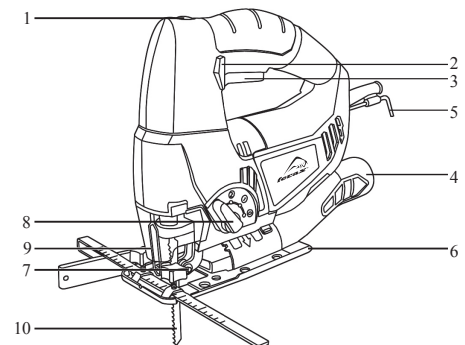

Fig. 1
4. PRODUCT INFORMATION (Fig. 1)